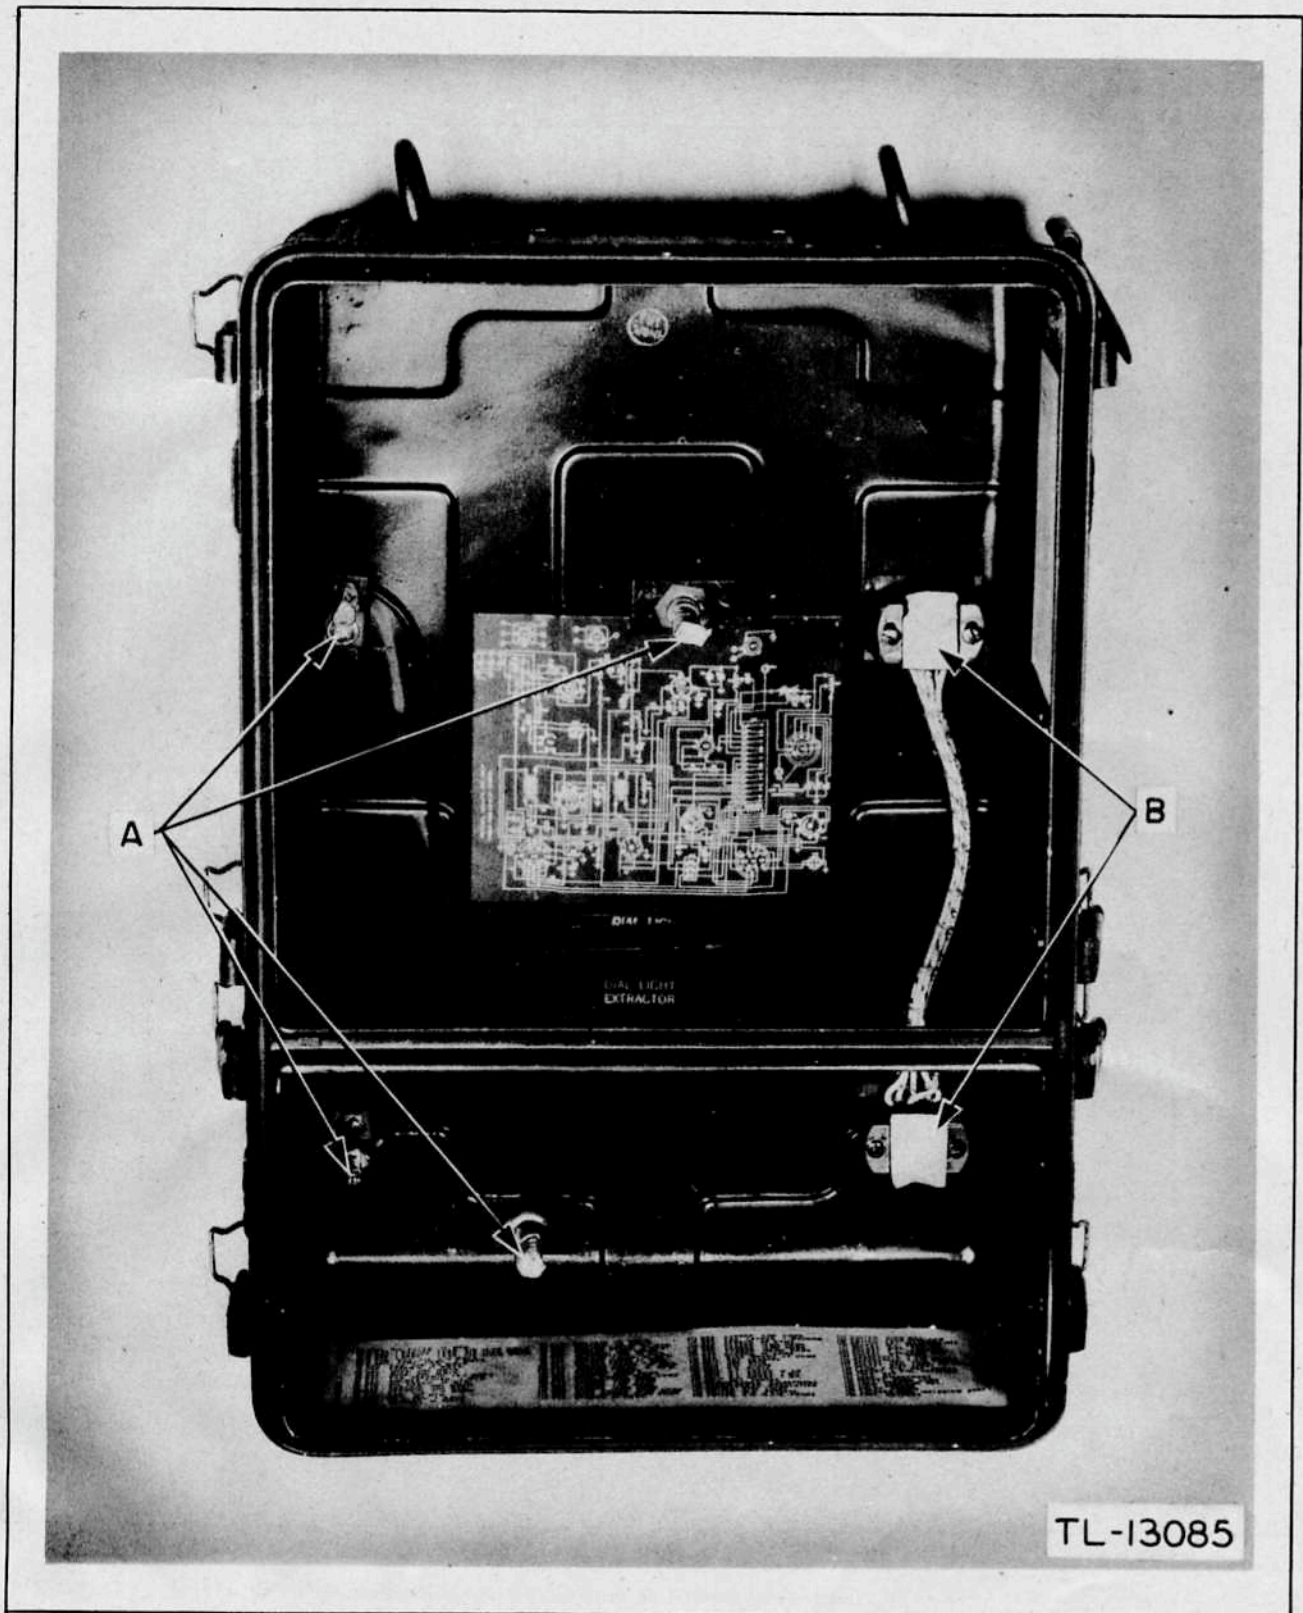

Figure 51. Components masked in case of receiver and transmitter.
(7) MASKING OF CASE.
- (a) Four connector jacks, item A, figure 51.
- (b) Two receptacles for power plugs, item B, figure 51.
(8) DRYING.